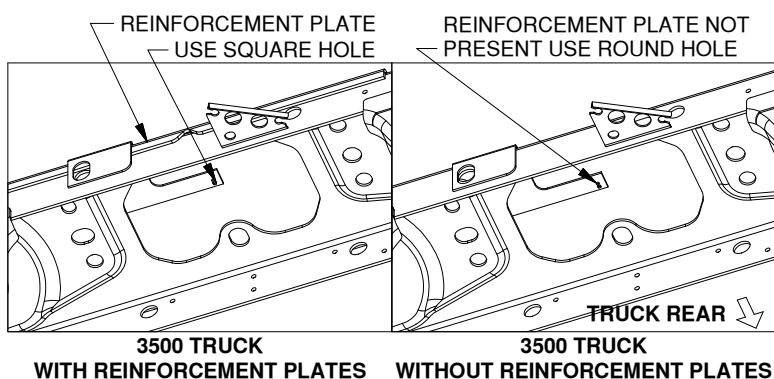
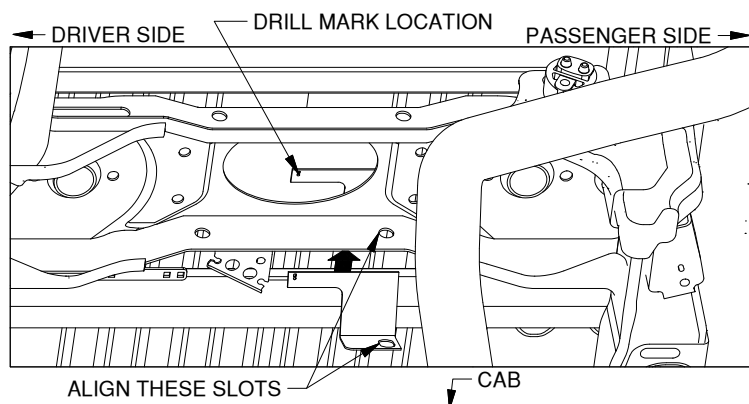

Figure A6: View looking under truck bed at cross member.
Figure A7: View looking under truck bed towards cab. (Axle not shown)
8. **Mark the location of the 3-1/2" hole.** Locate the hole marking template. The template will allow the drill location for the 3-1/2" hole to be marked. First, position the hole marking template above the frame cross member, as shown in Figure A7. Before the hole can be marked the template will need to be correctly positioned. Push the template up against the bottom of the truck bed. Move the template back until the formed flange is flat against the forward flange of the cross member. Slide the template so that the oval hole in the flange is in line with the hole in the cross member. Clamp the template to the flange in the cross member when the template is correctly positioned. There are two options for marking the center of the 3-1/2" hole. One location represented by the small round hole and one by the small square hole. The square hole is only for certain 3500 trucks with reinforcement plates welded to the frame cross member. These plates add one thickness of material to the cross member where the template references from. All other trucks with only one material thickness on the cross member will use the round hole. See Figure A6. Make a mark on the truck bed floor through the hole in the hole template using a marker, or other tool. Once the center point is marked, remove the template. Use a center punch to place an indentation in the truck bed at the center of the mark. Using a drill and a 1/4" bit, drill a pilot hole through the bed in this location.